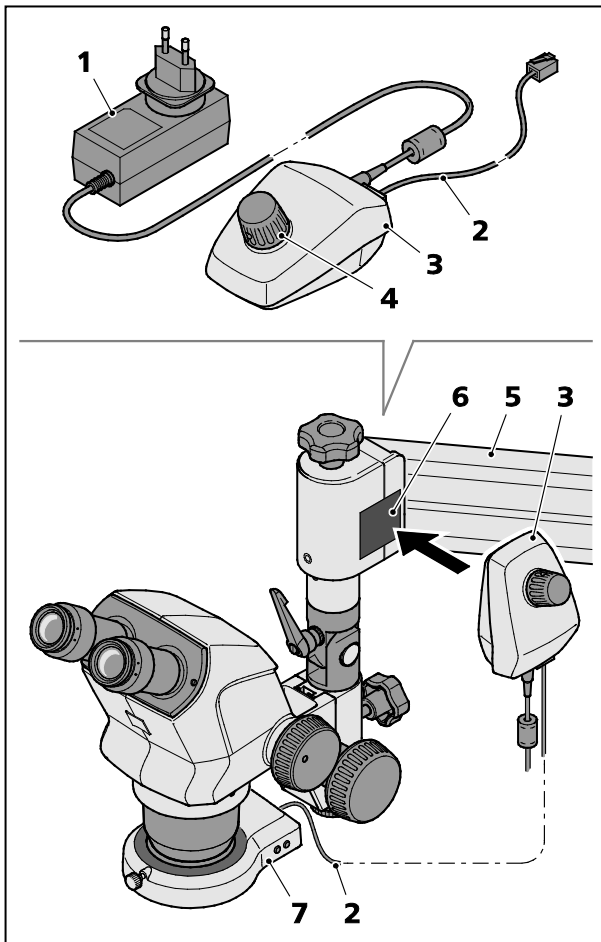

Fig. 11 Installing K LED controller
- Clamp the ring light (Fig. 11/7) onto the front lens system.
- Fasten the magnetic plate (Fig. 11/6) with the adhesive side onto the articulated suspension arm U (Fig. 11/5).
- Use the connecting cable (length 1 m) to connect the ring light (Fig. 11/7) to the controller K (Fig. 11/3) (Fig. 11/2).
- Place the controller K onto the magnetic plate (Fig. 11/6).
- Connect the controller K to the mains power net using the power supply unit (Fig. 11/1).
Press the rotary knob (Fig. 11/4) to switch on the ring illumination and adjust it by turning the illumination intensity control.